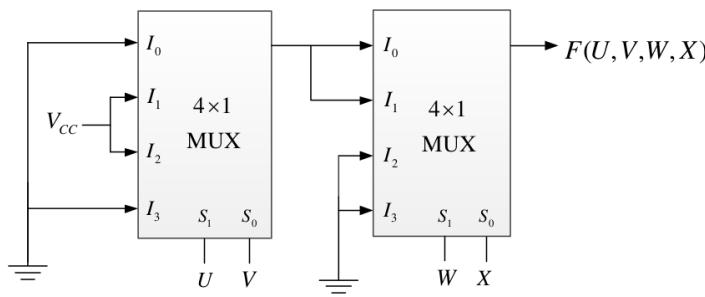

Fig. 4.21
34. A four-variable Boolean function is realized using 4×1 multiplexers as shown in the Fig. 4.21.